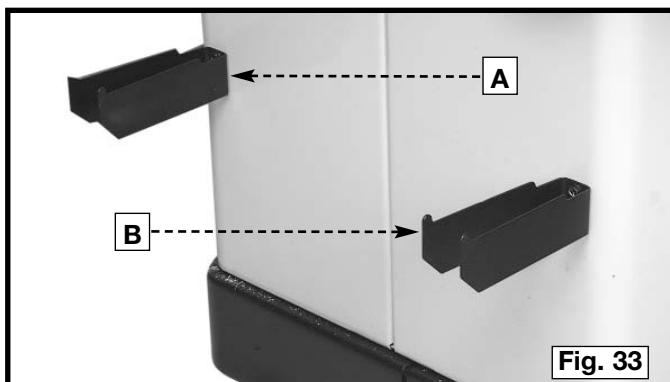

Fig. 33
Use four #10 x 1/2" sheet metal screws to attach the rip fence holder brackets (A) and (B) Fig. 33 to the four holes located in the left hand side of the saw cabinet.